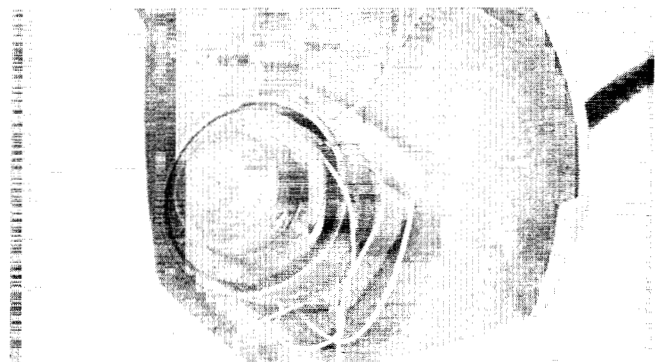

Figure 3.0
3.0 CHECK FOR LINE/GRASS STOPPING HEAD ROTATION (fig. 3.0)